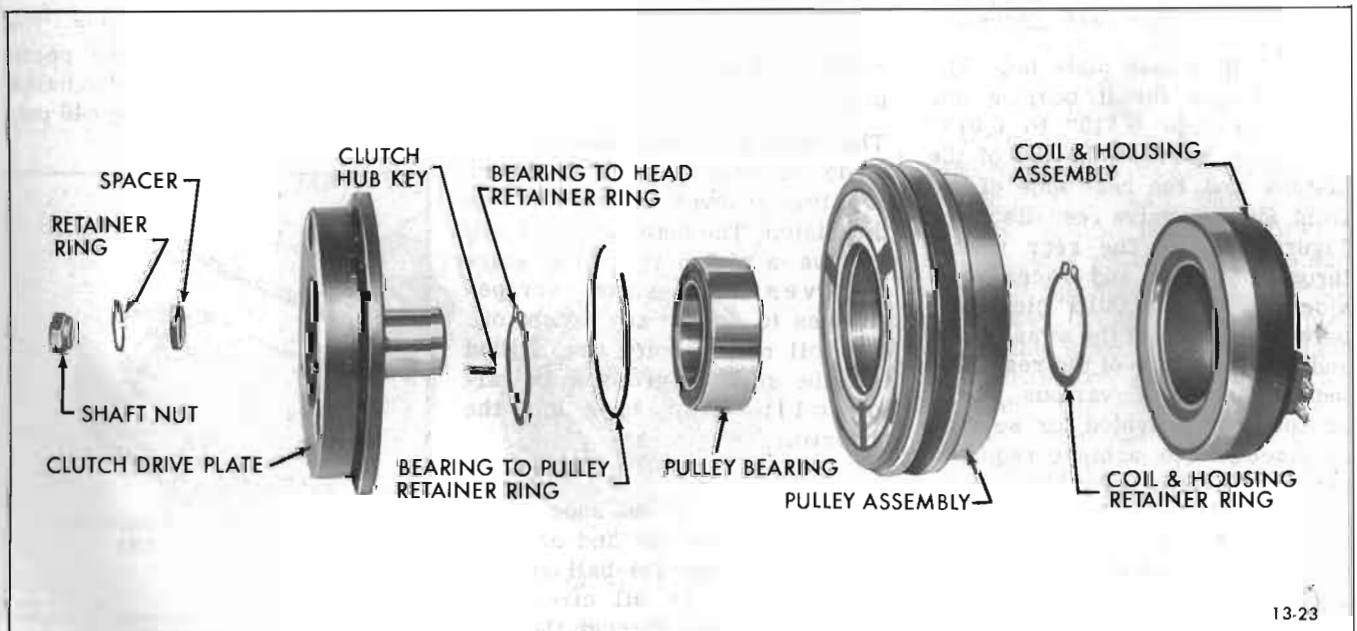

Figure 13-23—Magnetic Clutch Assembly
12. Magnetic Clutch and Pulley Assembly--The magnetic clutch and pulley assembly (see Figure 13-23) together transmit power from the engine crankshaft to the compressor. The magnetic clutch